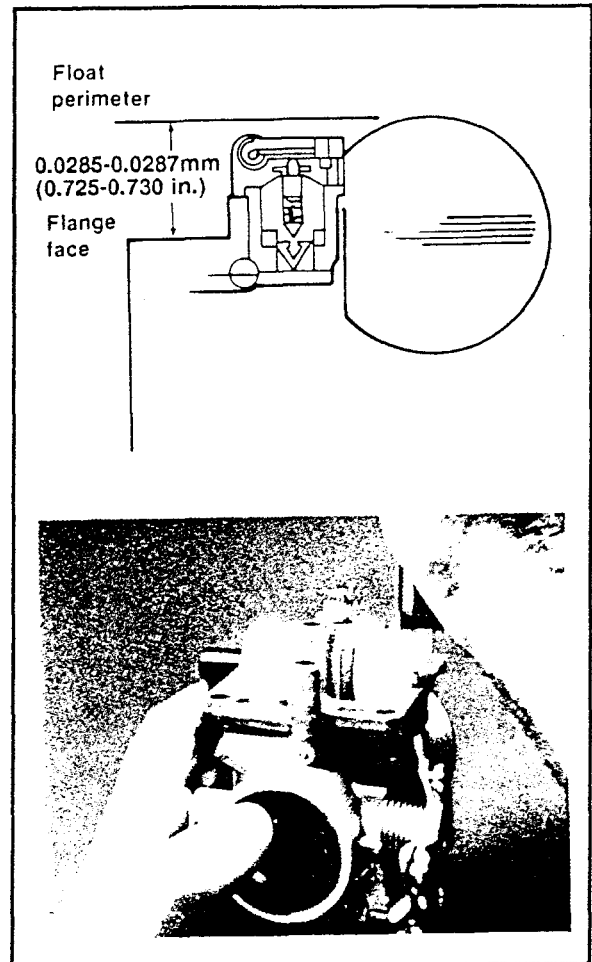

Figure 3-10. Float Adjustment
3. See Figure 3-10. Use a vernier or dial caliper depth rod to measure from the carburetor flange face to the perimeter of the float. Be careful not to push on float while measuring.